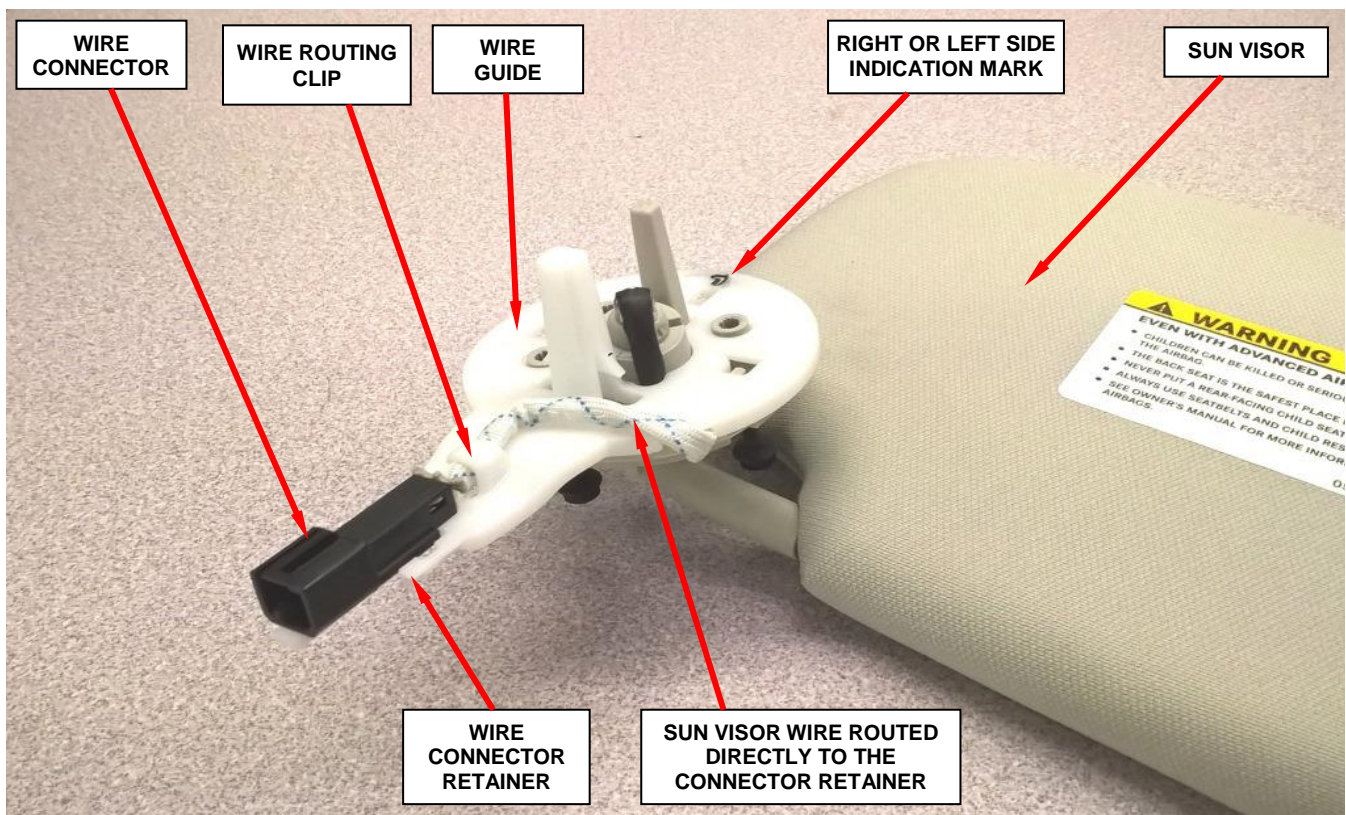

Figure 28 - Sun Visor Wire Routing
56. Route the sun visor wire as shown in Figure 28. Then connect the sun visor wire harness electrical connector to the wire guide connector retainer.
NOTE: Figures 28 show the sun visor parts assembled without the headliner in place.
CAUTION: Be sure to route the sun visor wire in the wire groove on the plastic wire guide (Figure 28).
CAUTION: It is critical that the sun visor wire remains under the wire routing clip shown in Figure 28 when reinstalling the visor to prevent improper wire routing.